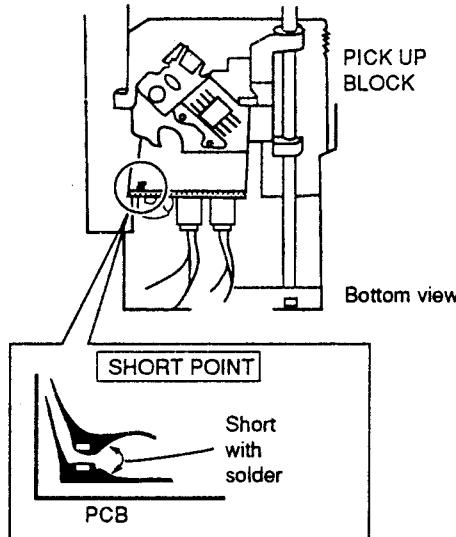

Fig. 3-1
- 2) Short the circuit on the PICK UP BLOCK with solder as shown in Fig. 3-1.
- 3) Disconnect the P200, P201, P202, P203 and P204 connectors on the TU-CD PCB. Be sure to short the shorting point on the PICK UP PCB before disconnecting the P200 and P201 connectors. (Refer to Fig. 3-1 on page 9.)
- 4) Remove the ② screw and the five ③ screws of the TU-CD PCB, then remove the TU-CD PCB.